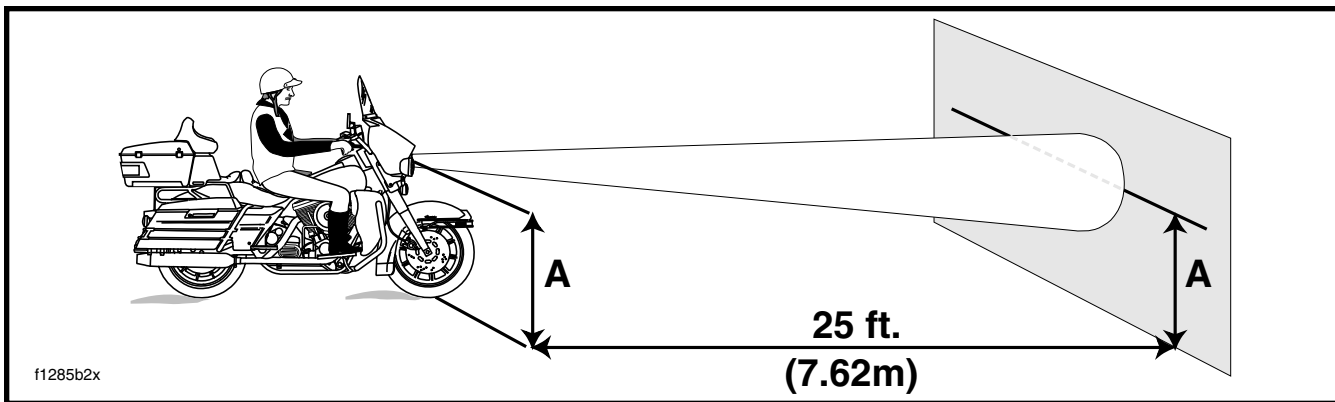

Figure 37. Check Headlamp Alignment
3. See Figure 37. Point the front of the motorcycle toward a screen or wall which is 25 feet (7.62 m) from where patch of front tire contacts floor (i.e. - directly below front axle).